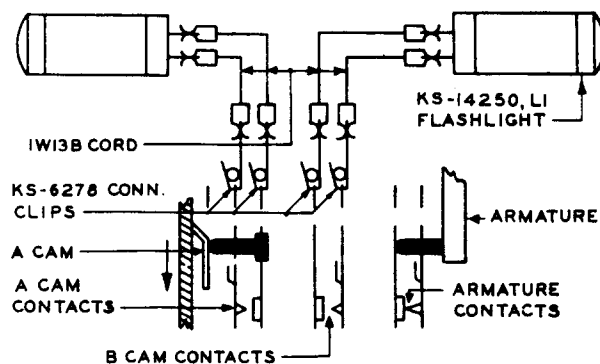

Fig. 21 - Connections for Checking "A" and "B" Cam Closures
(4) No. 1D and D-99326 Timers - Time Between Closure of "A" and "B" Cam Contacts: Connect flashlights to the proper spring terminals at the rear of the timer as shown in Fig. 21. Operate the timer